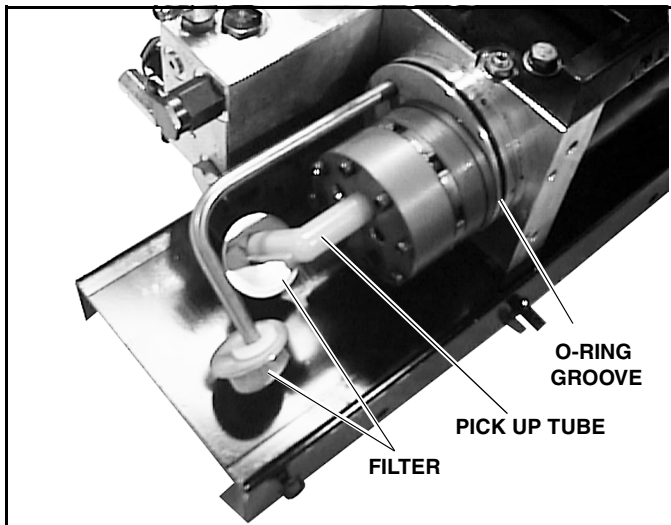

**Figure 2-1**
2. Remove two (2) self-tapping screws from the front of the cover and loosen two (2) cap screws from the rear. Remove the cover.
3. Remove the filler/breather cap from the reservoir. (See Figure 2-1)
5. Loosen the clamp securing the oil reservoir to the pump assembly and remove the oil reservoir being careful not to damage the filter screen while removing the oil reservoir. (See Figure 2-1)